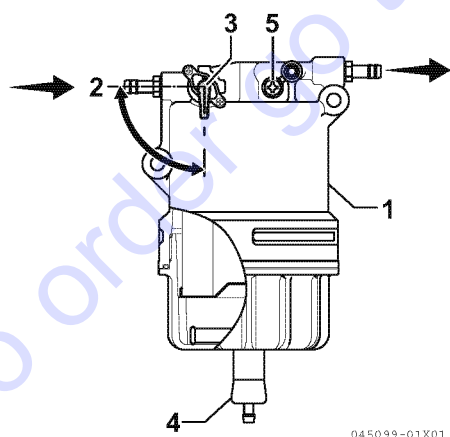

Figure 18
1. Position an approved container under the cup (1, **Figure 18**) of the water separator to collect the contaminants.
2. Close (2, **Figure 18**) the fuel valve (3, **Figure 18**).
3. Loosen the drain valve (4, **Figure 18**) and drain the contaminants. *See Drain water separator on page 72.*
4. Turn the cup (1, **Figure 18**) to the left (10, **Figure 18**) and remove the cup (1, **Figure 18**). If equipped, disconnect the sensor wire from the cup before removing the cup.
6. Remove the float ring (8, **Figure 18**) from the cup. Pour the contaminants into the container and dispose of it properly.
7. Clean the element (9, **Figure 18**) and inside cup. Replace the element if it is damaged.
11. Install the cup to the body by tightening the cup to the right (6, **Figure 18**) to 18 - 22 N·m (1.8 - 2.2 kgf·m).
13. Open the fuel valve (3, **Figure 18**).